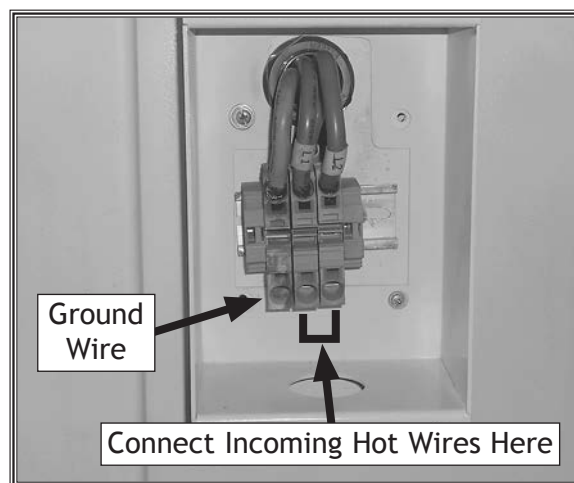

Figure 18. W1772 junction box wiring.
2. Feed the power wires through a strain relief on the bottom of the junction box, tighten the strain relief, connect the cord to the terminals shown in **Figure 18** or **19**, and re-install the junction box cover.